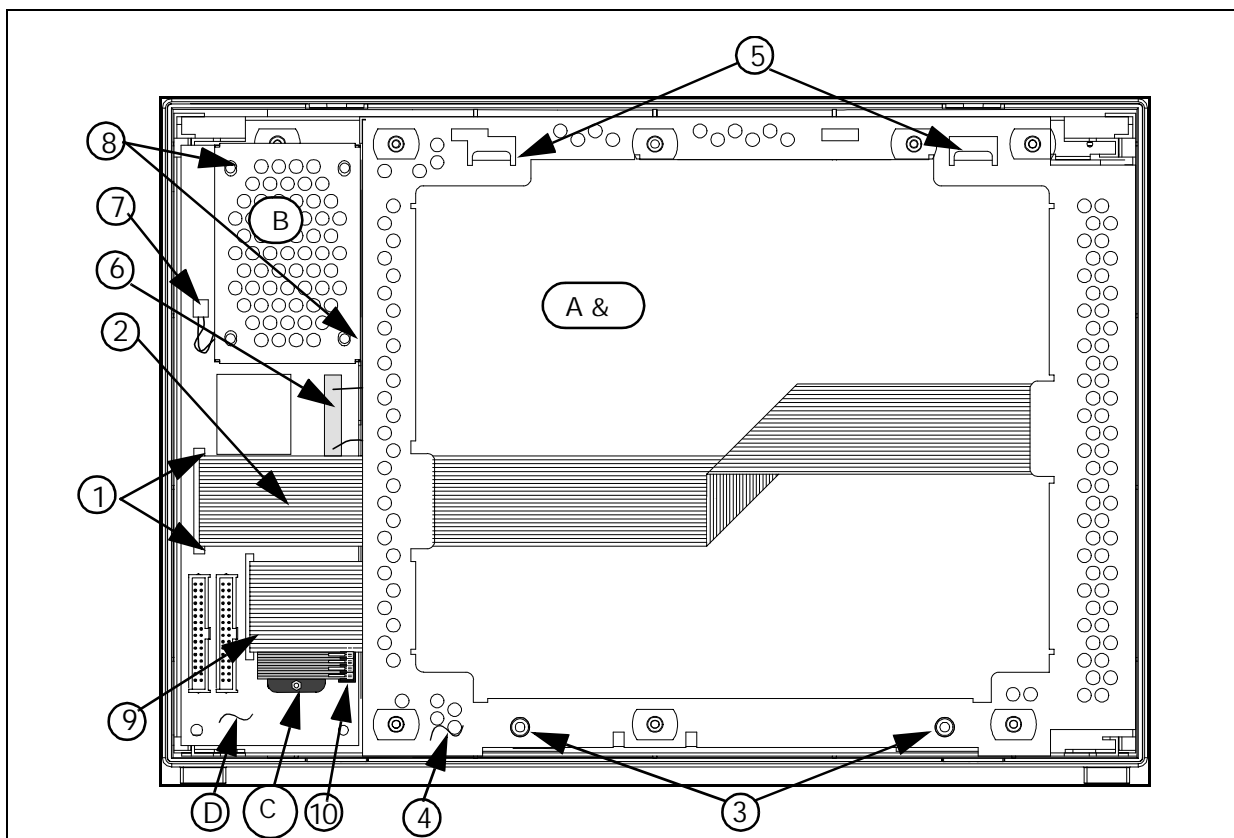

Fig. 3-9 Front Panel Subassembly Layout - 9.5" LCD Display
- 2) With the Front Panel Subassembly separated from the rear housing and laying face down on a smooth clean surface, unplug the membrane switch pad ribbon cable ⑨ from the PC board. Refer to Figure 3-9 (9.5" display) or 3-11 (10.4" display) as appropriate.
The Speaker Subassembly (B) is mounted in the upper left hand corner of the Front Panel Subassembly. Refer to Figure 3-9 (9.5" display) or 3-11 (10.4" display) as appropriate. The speaker's magnet is pressed into a well, and the speaker is secured by two screws on diagonally opposite corners of the metal protective shield. Remove the Speaker Subassembly as follows:
- 1) With the Front Panel Subassembly separated from the rear housing and laying face down on a smooth clean surface, unplug the speaker cable connector ⑦ from the PC board.
- 2) Remove the two securing screws ⑧ and carefully lift the speaker and shield out of the subassembly.